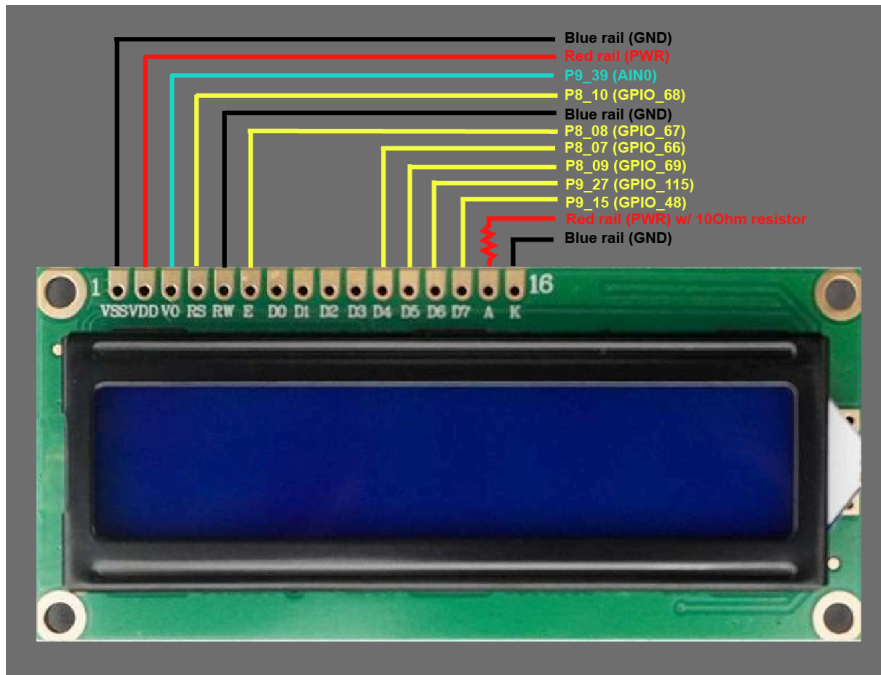

Figure 6: Wiring diagram of LCD in 4-bit mode [4]
*Edited image of LCD display to provide diagram in Figure 6*